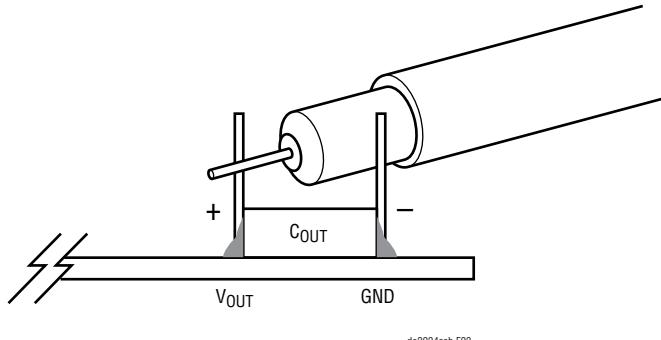

Figure 3. Scope Probe Placement for Measuring Output Ripple Voltage
6. Once the input and output voltages are properly established, adjusting the input voltage between 7V to 16V max and the load current within the operating range of 0A to 30A max per channel. Observe the output voltage regulation, output voltage ripples, switching node waveform, load transient response and other parameters. Refer to Figure 3 for proper output voltage ripples measurement.
NOTE: To measure the input/output voltage ripples properly, do not use the long ground lead on the oscilloscope probe. See Figure 3 for the proper scope probe technique. Short, stiff leads need to be soldered to the (+) and (-) terminals of an input or output capacitor. The probe's ground ring needs to touch the (-) lead and the probe tip needs to touch the (+) lead.